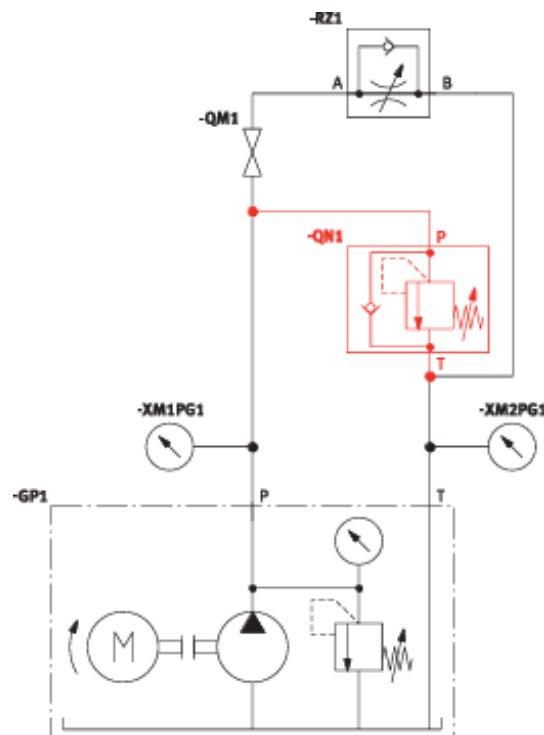

Figure 5.12: A hydraulic circuit using a one-way flow control valve for "meter-out" speed control of the cylinder's extension.
**4. Circuit Analysis: Meter-Out Control** The circuit in Figure 5.12 controls the cylinder's extension speed: